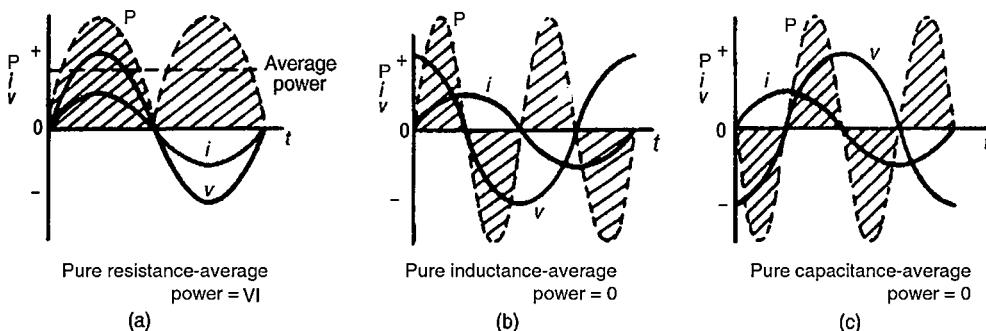

Figure 15.23
- (a) For a purely resistive a.c. circuit, the average power dissipated,  $P$ , is given by:  $P = VI = I^2R = V^2/R$  watts (V and I being rms values) See Fig. 15.23(a)
- (b) For a purely inductive a.c. circuit, the average power is zero. See Fig. 15.23(b)
- (c) For a purely capacitive a.c. circuit, the average power is zero. See Fig. 15.23(c)